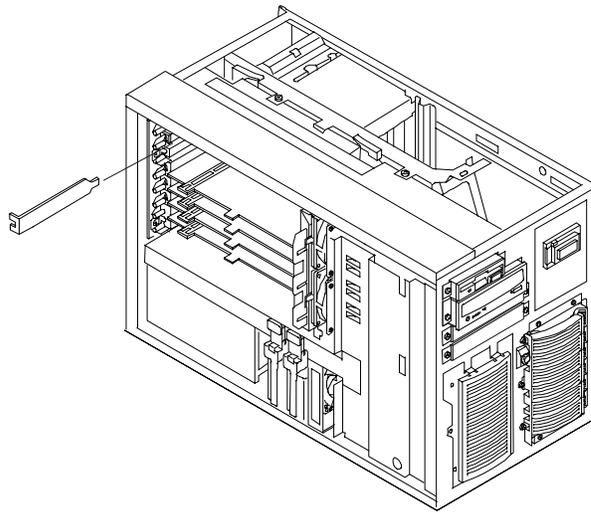

Figure 6-3. Removing a PCI Slot Cover
- Remove the PCI slot cover from the NetServer's rear panel, before installing the new board into the slot (see Figure 6-3).
15. Secure the PCI board by rotating the locking lever counter-clockwise to hold the retainer (see Figure 6-3).